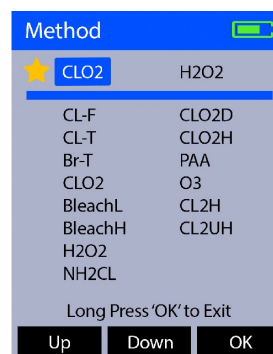

Figure 4.
1. Press **Color** () to launch the **Method** screen (Figure 4).